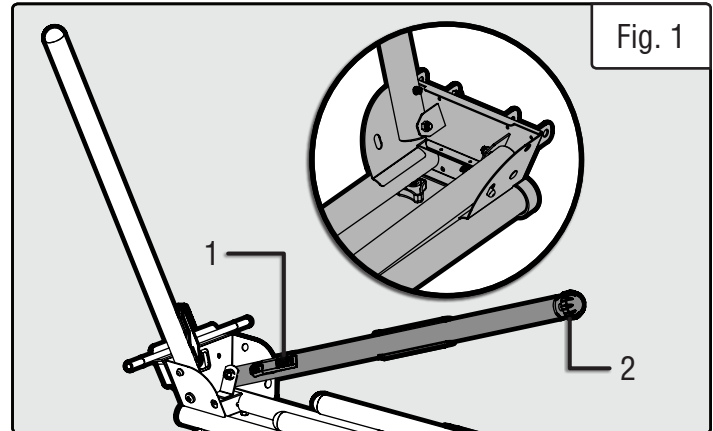

Fig. 1
2. Press down the release lever (Fig. 1 - 1) to disengage the locking pin and rotate the leg up until the locking pin clicks into the open position.
5. If adjustment is needed, turn the adjustment nut (Fig. 1 - 2) to set the height of the leg until the stand is stable.